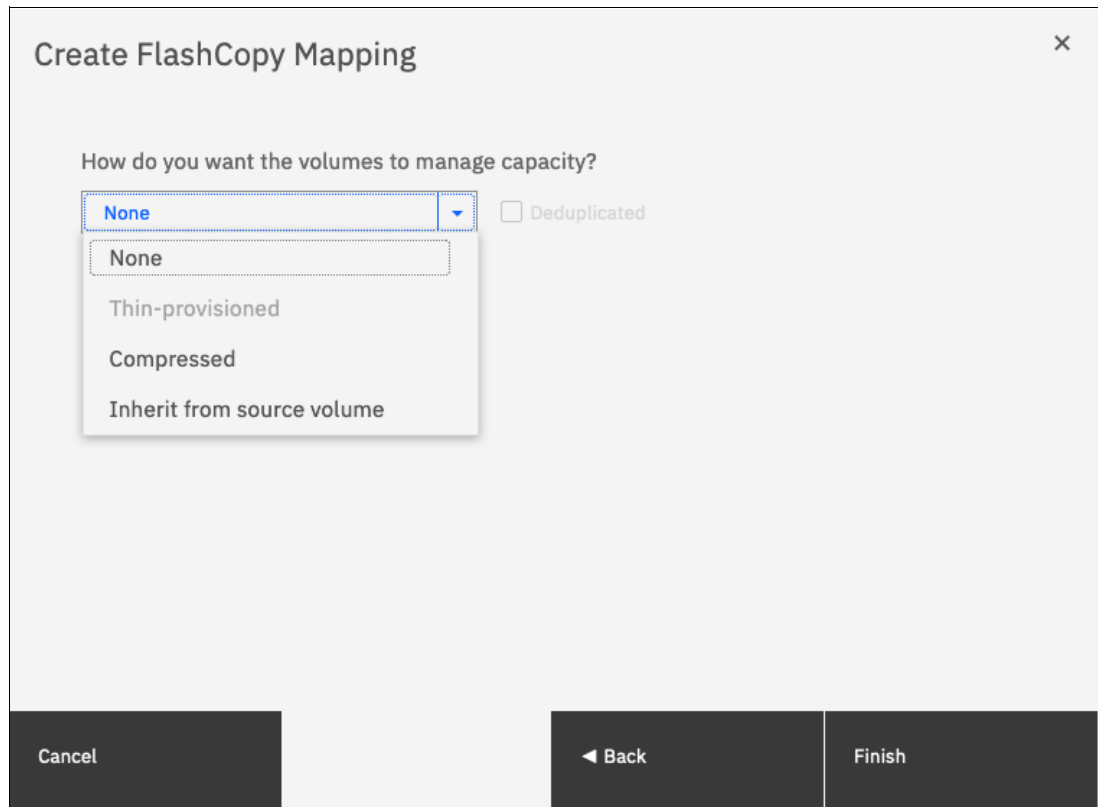

Figure 10-31 Select the type of volumes for the created targets
6. The system prompts the user how to define the new volumes that are created, as shown in Figure 10-31 on page 691. It can be None, Thin-provisioned, or Inherit from source volume. If Inherit from source volume is selected, the system checks the type of the source volume and then creates a target of the same type. Click **Finish**.